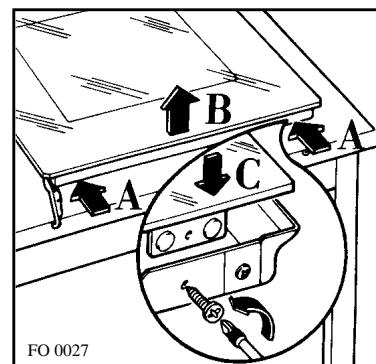

Fig. 6
- g) unscrew the two screws marked with lett. **A** fig.6;